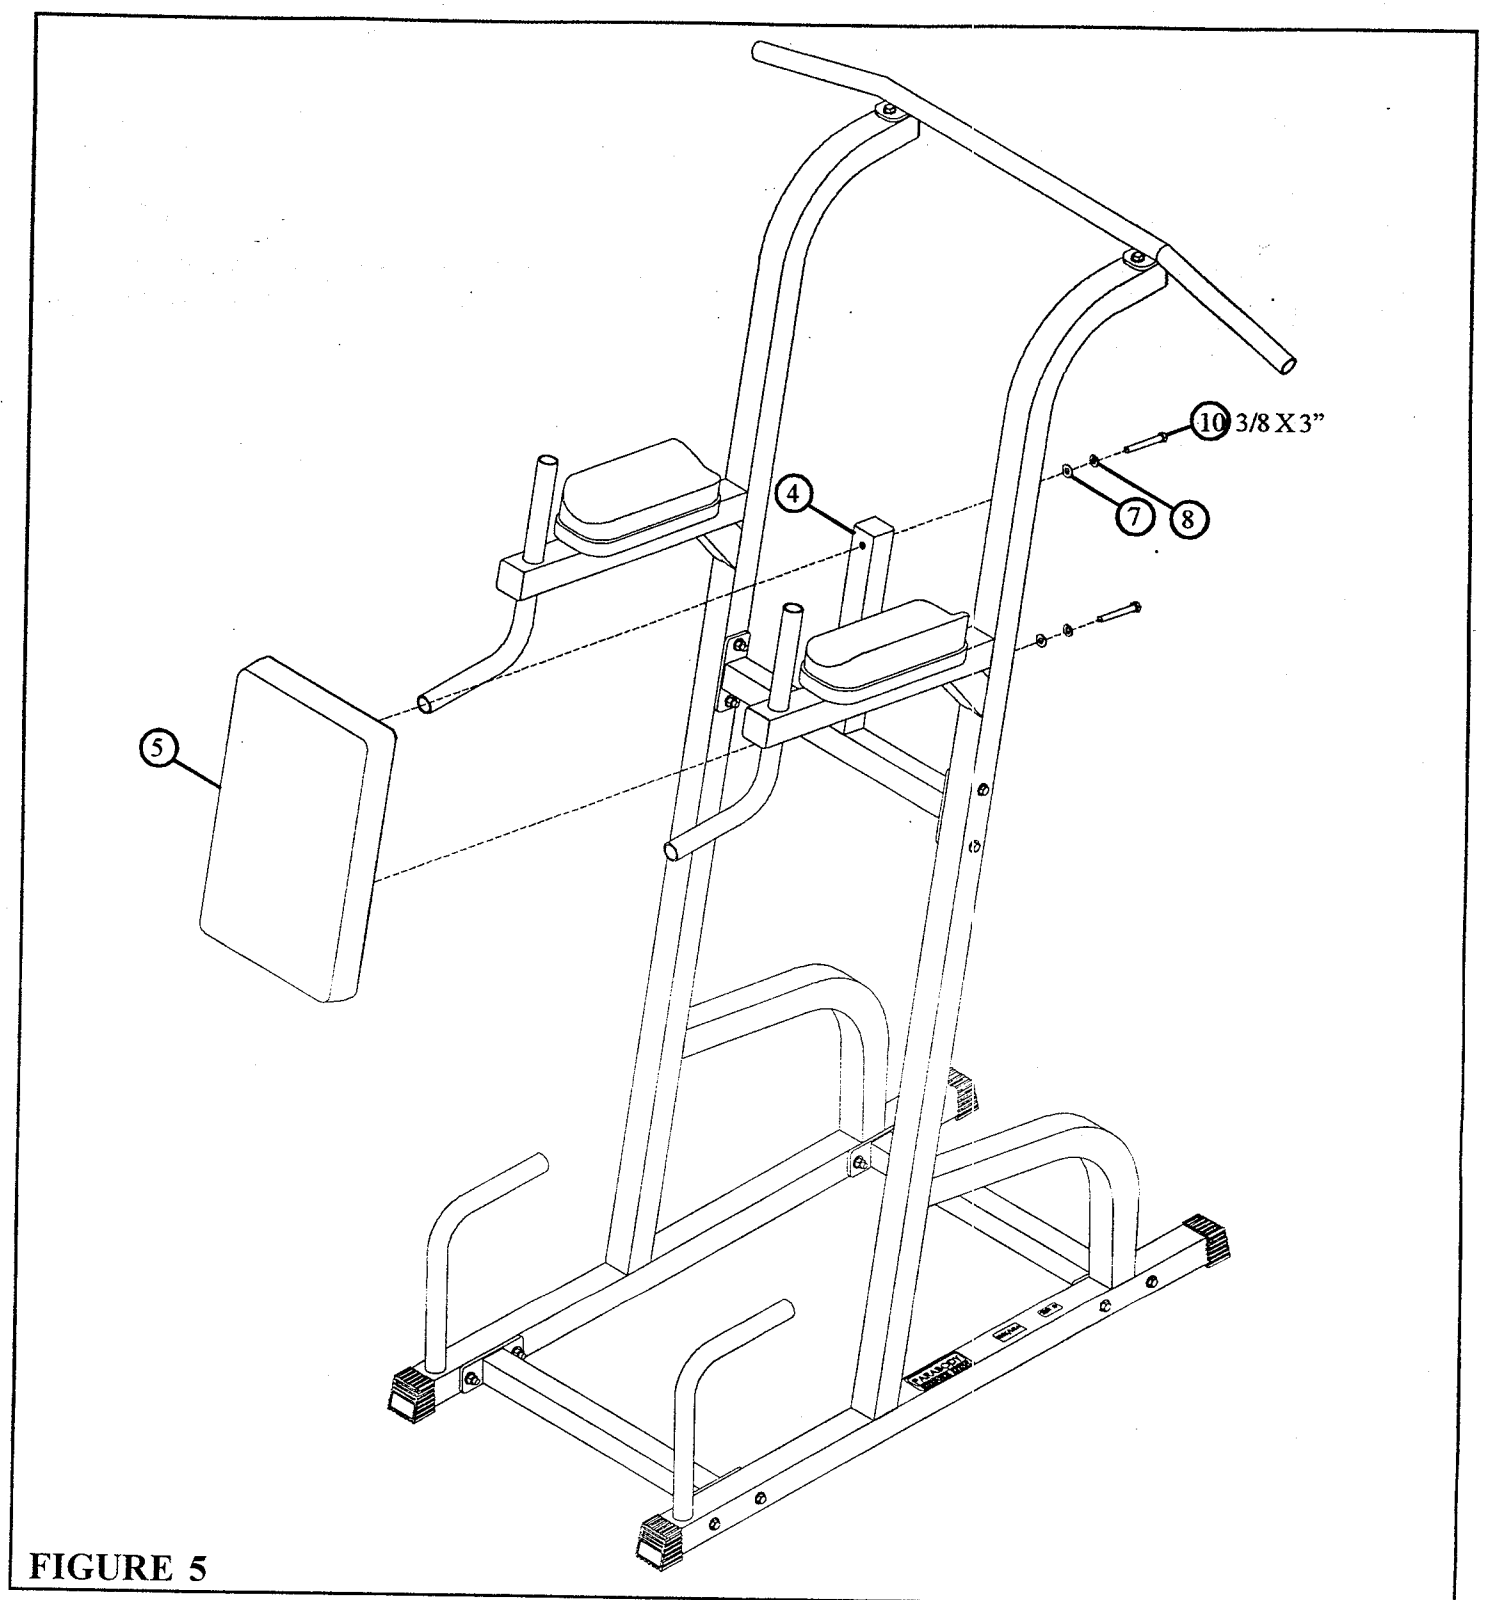

**FIGURE 4**
- **SECURELY** attach two ARM PADS (6) to the VKR SIDES (3) using four 3/8 X 3" BOLTS (10), four 3/8" LOCK WASHERS (8), and four 3/8" FLAT WASHERS (7) as shown in FIGURE 4. (**NOTE: Place the high side of ARM PAD toward the outside.**)